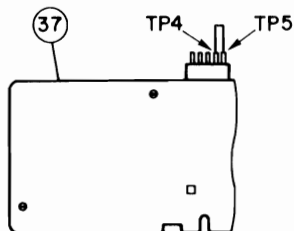

Figure 24
**(D) Lead-in Position Adjustment**
2. Insert the test connector to the 5-pin plug (CN4) of the Control P. C. Board and short-circuit TP4 and TP5 of the test connector as shown in Figure 24.